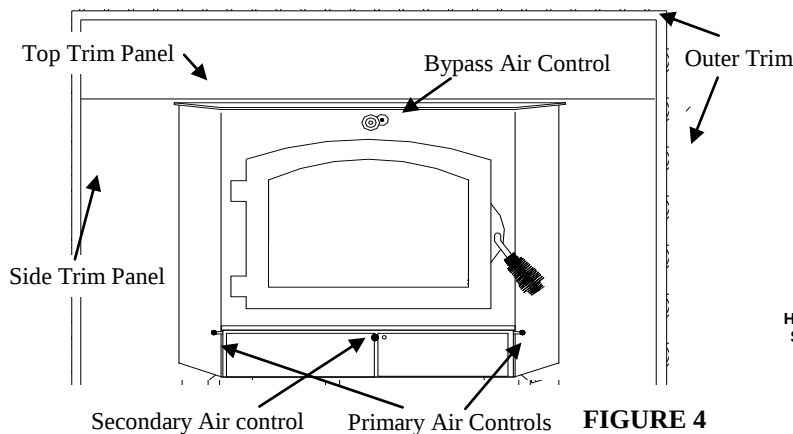

FIGURE 4
9. Obtain the brass trim kit and slip over the top and sides of trim panels. Top ends of brass may need to be trimmed to fit (See Figure 4).
Damper Bypass Control: The damper bypass control is located at the center top of stove. Push in to close it, pull out to open it. (See Figure 4).